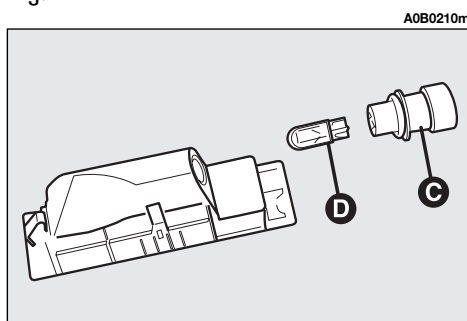

fig. 48
- remove the bulb holder (**C-fig. 48**) turning lightly and replace the bulb (**D-fig. 48**) which is pressure-fitted.
- Refit the bulb holder (**C-fig. 48**) turning gently.